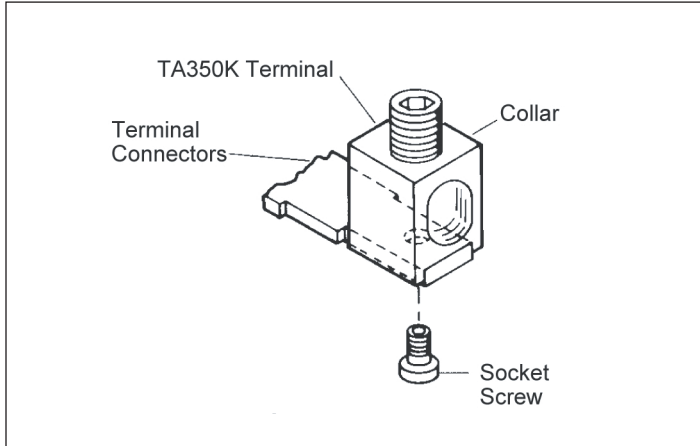

Figure 4. Terminal Installation.
- 2.5. If not already installed, mount terminal as shown in Figure 4. When using terminal (Catalog No. TA350K), secure the terminal to the circuit breaker using 1/4-inch (6.35 mm) hex key. Torque to 6-8 lb-ft (8.1 - 10.9 N-m).